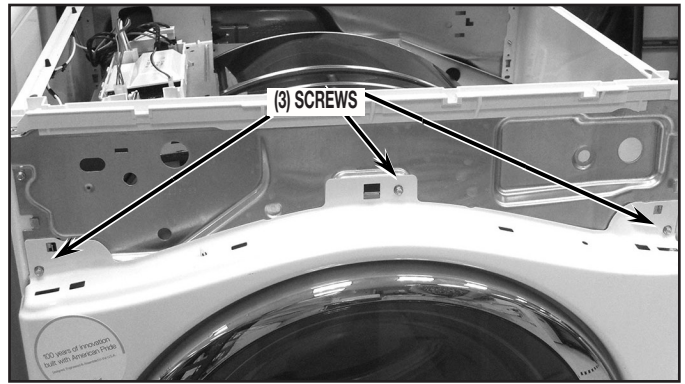

FIGURE 8
- Next remove the three (3) screws from the top of the front panel as shown in *Figure 8*.